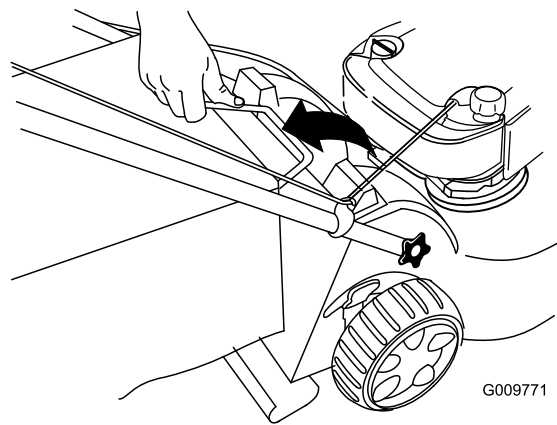

Figure 33
2. Lift the grass-bag handle out from the grooves at the top of the machine and remove the bag from the machine (Figure 33).